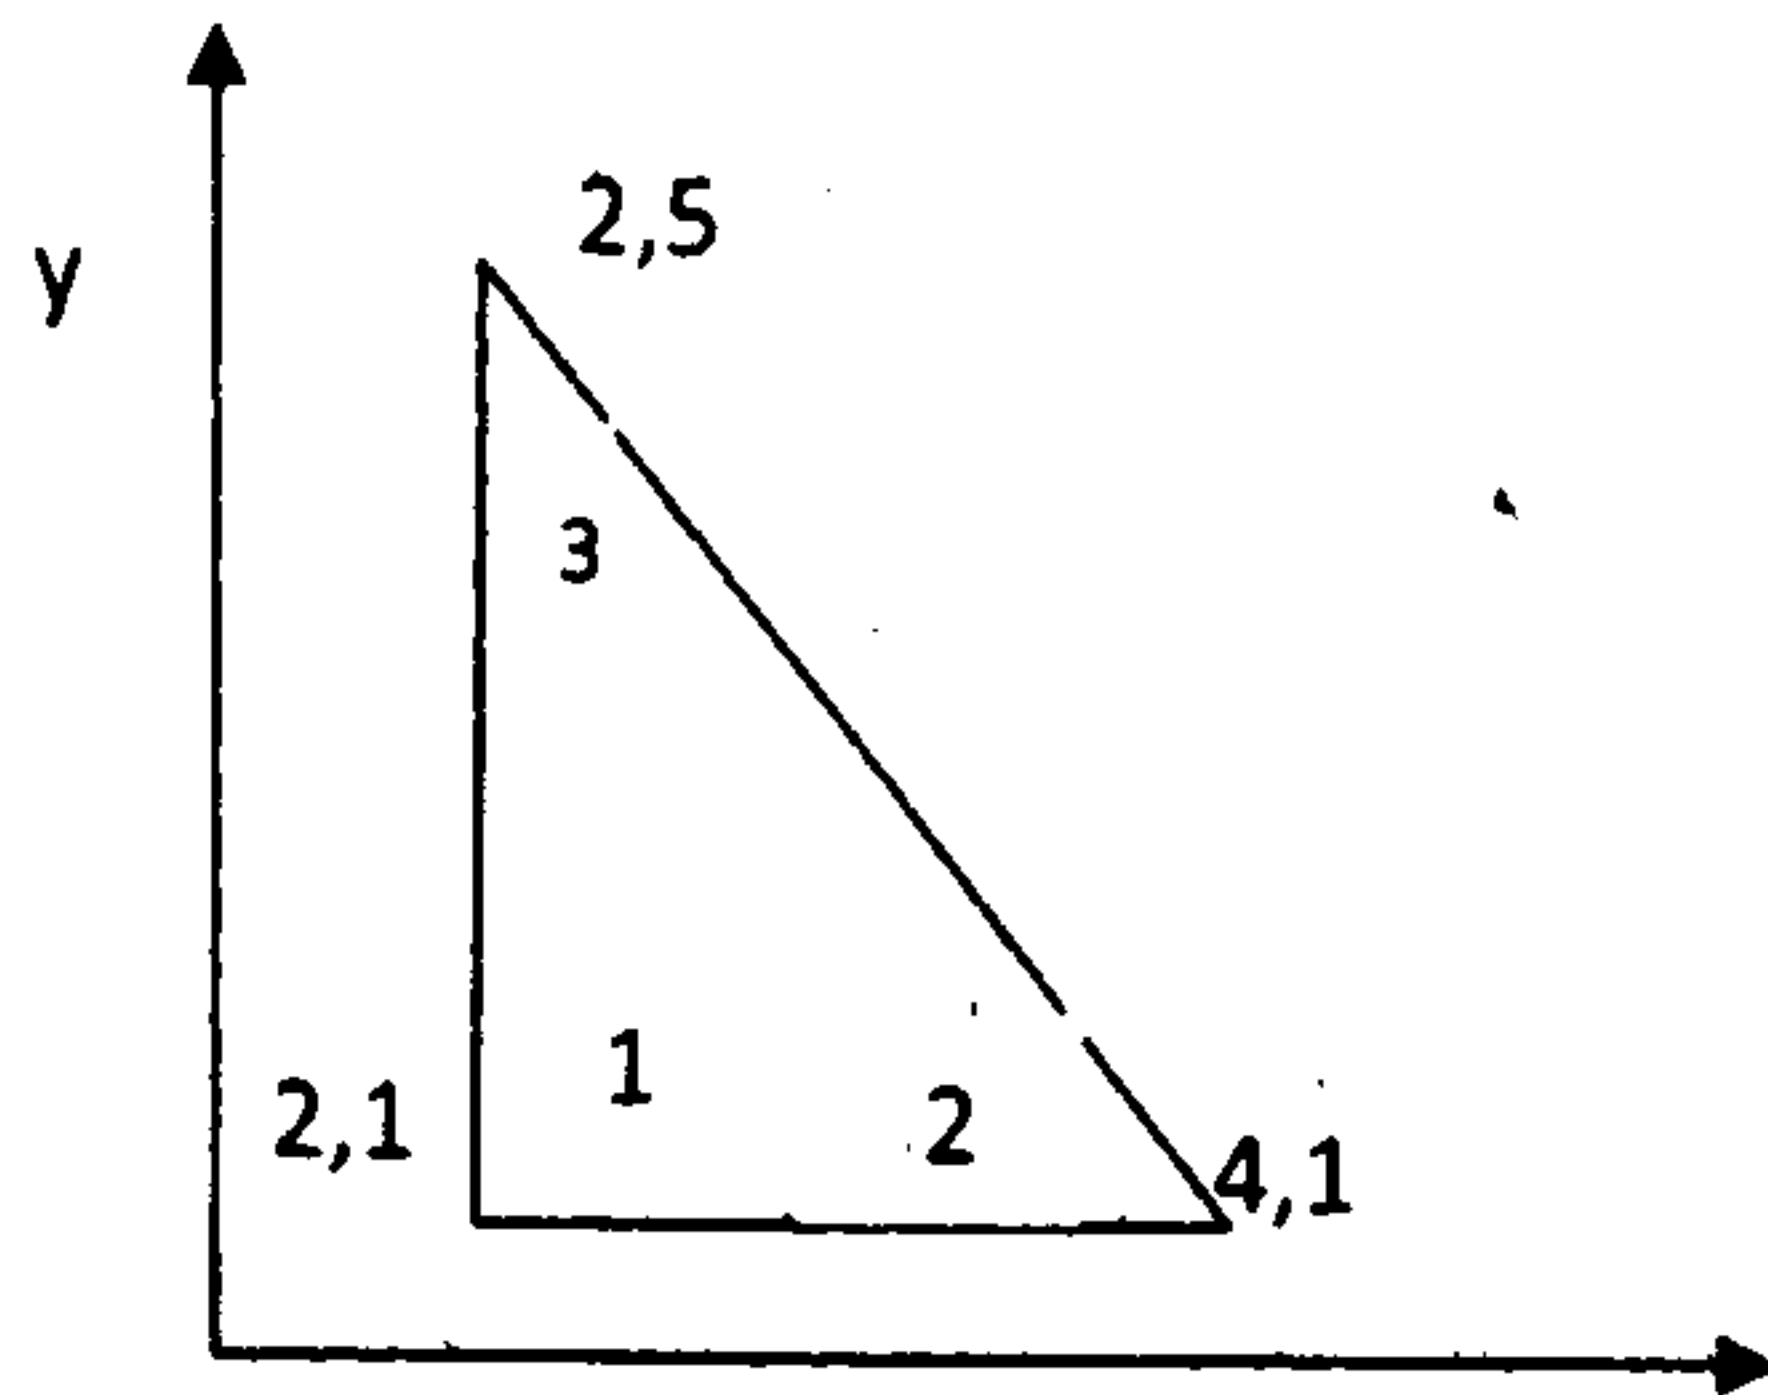

Figure 13 (a)
13. (a) For the plane strain elements shown in figure 13(a), the nodal displacements are given as $u_1 = 0.005$ mm, $v_1 = 0.002$ mm, $u_2 = 0.0$, $v_2 = 0.0$, $u_3 = 0.005$ mm, $v_3 = 0.30$ mm. Determine the element stresses and the principle angle. Take $E = 70$ GPa and Poisson's ratio = 0.3 and use unit thickness for plane strain. All coordinates are in mm.